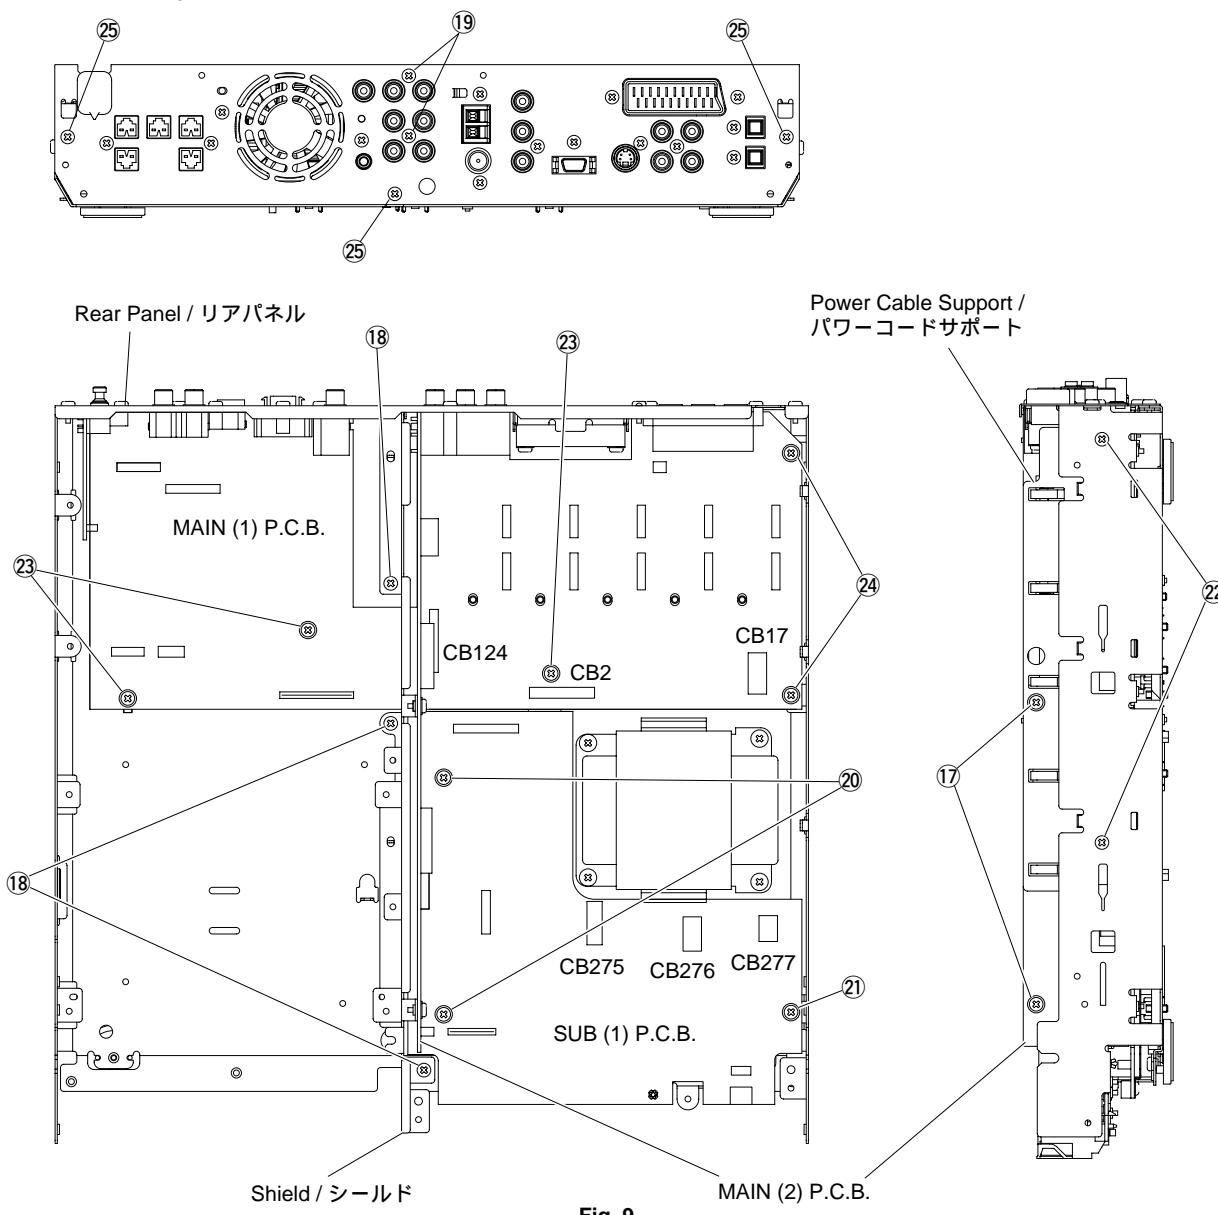

Fig. 9
**9. Removal of MAIN (2) & SUB (1) P.C.B.**
- Remove 2 screws ( ⑯ ) in Fig. 9.
- Remove 3 screws ( ⑰ ) and then remove the Shield in Fig. 9.
- Remove 2 screws ( ⑲ ) in Fig. 9.
- Remove 2 screws ( ⑳ ) and 1 screw ( ㉑ ) in Fig. 9.
- Remove connectors CB2, CB124, CB275, CB276 and CB277 in Fig. 9.
- Remove the MAIN (2) & SUB (1) P.C.B. in Fig. 9.
**10. Removal of MAIN (1) P.C.B.**
- Remove 2 screws ( ㉒ ) and then remove the Power Cable Support in Fig. 9.
- Remove 3 screws ( ㉓ ) and 2 screws ( ㉔ ) in Fig. 9.
- Remove connector CB17 in Fig. 9.
- Remove 3 screws ( ㉕ ) in Fig. 9.
- Remove the MAIN (1) P.C.B. with the Rear Panel attached to it in Fig. 9.
**9. MAIN (2) & SUB (1) P.C.B.の外し方**
- ⑯のネジ2本を外します。( Fig. 9 )
- ⑰のネジ3本を外し、シールドを外します。( Fig. 9 )
- ⑲のネジ2本を外します。( Fig. 9 )
- ⑳のネジ2本、㉑のネジ1本を外します。( Fig. 9 )
- コネクターCB2, CB124, CB275, CB276, CB277を外します。( Fig. 9 )
- MAIN (2) & SUB (1) P.C.B.を外します。( Fig. 9 )
**10. MAIN (1) P.C.B.の外し方**
- ㉒のネジ2本を外し、パワーコードサポートを外します。( Fig. 9 )
- ㉓のネジ3本、㉔のネジ2本を外します。( Fig. 9 )
- コネクターCB17を外します。( Fig. 9 )
- ㉕のネジ3本を外します。( Fig. 9 )
- リアパネルが付いた状態でMAIN (1) P.C.B.を外します。( Fig. 9 )